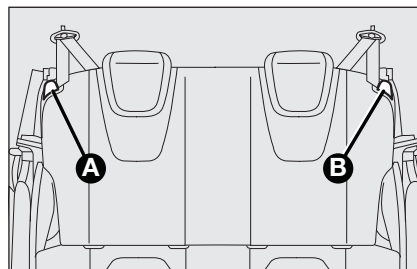

fig. 45
EXTENDING THE BOOT**Partial extension (50/50) (where provided) fig. 45**
- ☐ lift handle **A** or **B**-fig. 45 to release either the left or right part of the backrest and guide the backrest down onto the cushion.
- ☐ operate levers **A** and **B**-fig. 45 to release the backrests and guide them onto the cushion.